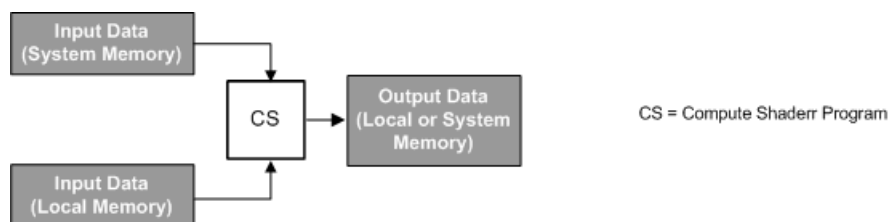

Figure 1.2 GCN Generation 3 Dataflow
Figure 1.2 shows the dataflow for a GCN application. For general-purpose applications, only one processing block performs all computation.
The program type commonly run on the GCN GPU (see Figure 1.2, on page 1-3) is the Compute Shader (CS), which is a generic program (compute kernel) that uses an input work-item ID as an index to perform: